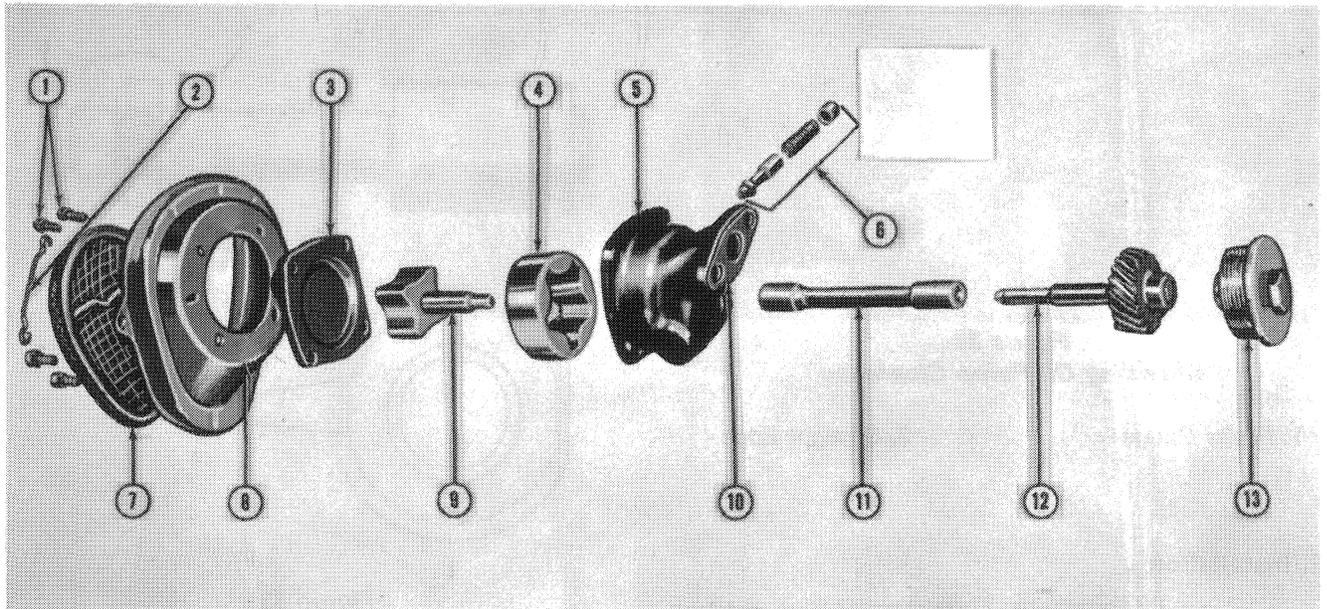

Figure 31
2. Remove the four capscrews and remove the screen cover and pump cover, Figure 31. Remove the rotor and shaft assembly.
3. Insert a self-tapping screw of the correct size into the hole in the relief valve plug and pull the plug out of the chamber. Remove the spring and relief valve, Figure 31.
The oil pump assembly is shown in Figure 31.